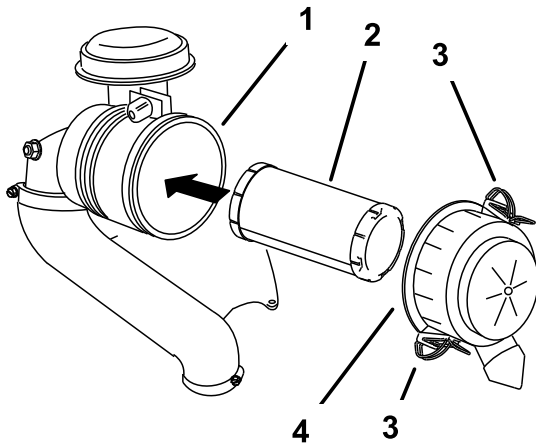

Figure 30
3. Release the latches on the air cleaner and pull the air-cleaner cover off the air-cleaner body (Figure 30).
5. Gently slide the filter out of the air-cleaner body (Figure 30).
2. Carefully slide the filter into the air-cleaner body (Figure 30).
3. Install the air-cleaner cover and secure the latches (Figure 30).